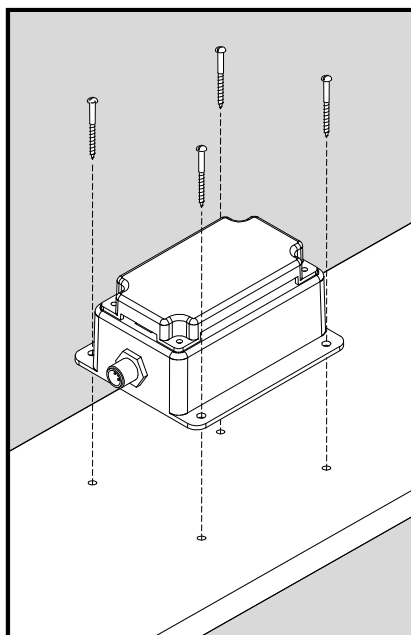

Figure 1 – Mounting the DCR100
Attach the DCR100 securely to the vessel using the included stainless steel mounting screws or other fasteners as shown in Figure 1 below. Do not use threadlocking compounds containing methacrylate ester, such as Loctite Red (271), as they will cause stress cracking of the plastic enclosure.